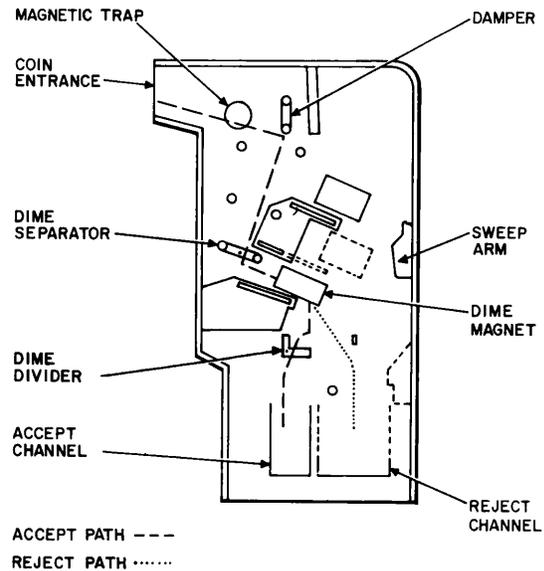

Fig. 3—Dime Path in a Typical Coin Chute
2.03 Dime Operation—Valid Coin Accepted (Fig. 3).
2.04 Dime Operation—Coin Rejected (Fig. 3).
- (1) Quarter is deposited in coin entrance and passes magnetic trap.
- (2) Quarter continues and is checked for size and weight as the quarter separator rotates.
- (3) Quarter is channeled into the quarter magnet area.
- (4) The quarter magnet sets up an eddy current effect which slows its movement down the chute.
(5) Quarter strikes the right side (as viewed in Fig. 3) of quarter divider and is accepted.